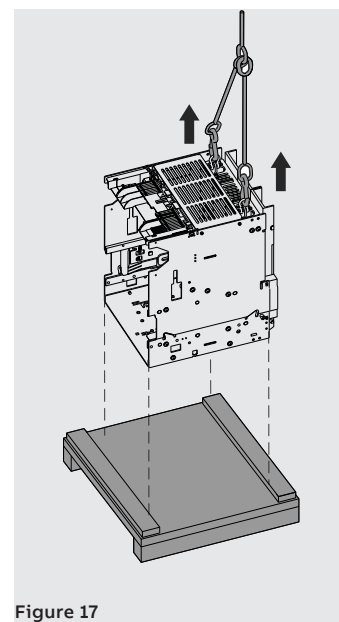

Figure 17
- Raise the fixed part from the base of the packaging with the aid of the two hooks supplied with the fixed part. See Figure 17.